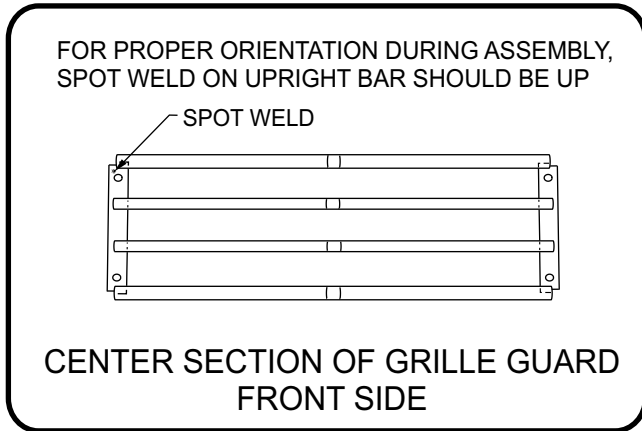

FIGURE 1
STEP 6. To assemble Grille Guard, determine top of center section. See Figure 1. Determine passenger and driver side wing, (wings should follow contours of the vehicle turn lamps) and insert so that the wing slot lines up with the center section hole. Fasten uprights to Grille Guard using (4) 1/2-13 x 1.50" Hex Head Bolts and (4) 1/2" Flat Washers. Torque to 65 FT. LBS.
STEP 7. Place protective rubber strips against profiles where contact to vehicle occurs. Position Grille Guard Assembly against vehicle and fasten to mount brackets using (4) 1/2-13 x 1.00" Button Head Bolts and (4) 1/2" Internal Tooth Lock Washers.